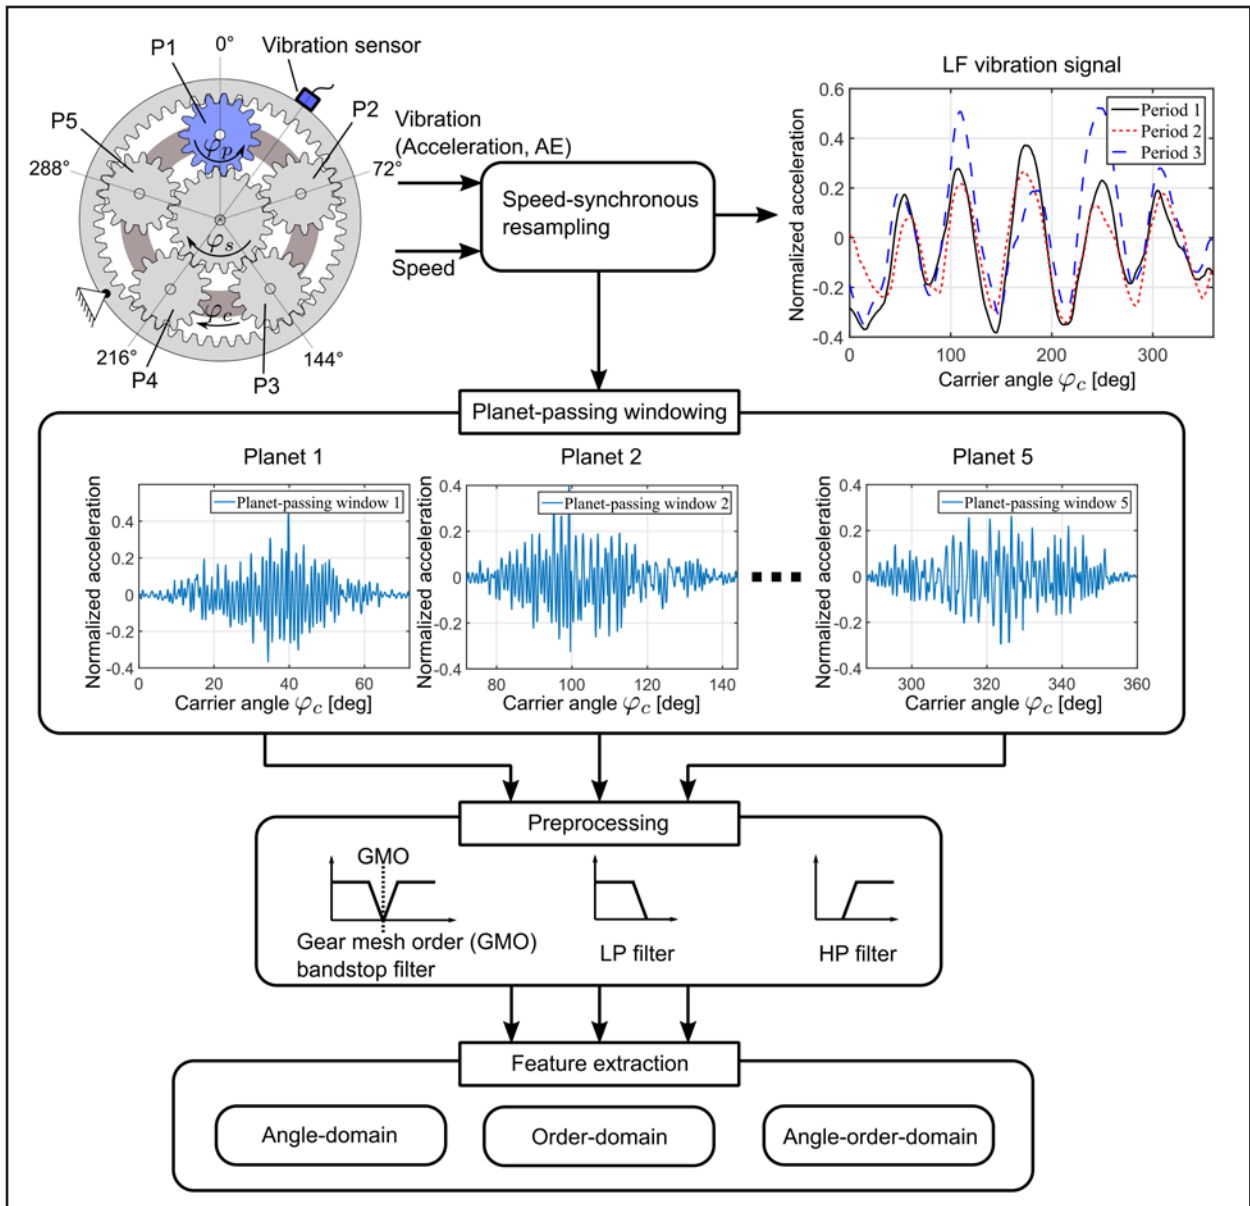

Figure 1 PGB monitoring method.
Since the vibration signals in the gear train have a vibration periodicity with respect to the gear meshing patterns, the following signal processing method for gear monitoring is shown in Figure 1 using acceleration signals. The acceleration signals were recorded on the planetary test bench of the FZG of the TU Munich (Ref. 8).
using speed-synchronous resampling. This signal processing step reduces the smearing effect in the spectral representation, which can be caused by speed fluctuations. The low-frequency (LF) vibration signal in the upper-right corner of Figure 1 shows the amplitude modulation effect that results in an increased vibration amplitude when a planet gear is directly below the vibration sensor mounted on the ring gear. After the resampling method, the vibration data are windowed with a window width of $360^\circ/N_p$, where N_p is the number of planet gears of the planetary gear. The center of the window is at the carrier angle point if a planet gear intermeshes right near to the vibration sensor. In the preprocessing step, various filters such as low-pass filters, gear mesh band-stop filters for revealing the vibration sidebands, and high-pass filters are applied to the window-shaped vibration signals to feed the feature extraction methods in the last step of Figure 1. Afterwards, features are extracted from the angle-domain vibration signal (e.g.: root mean square (RMS), kurtosis, crest factor) and from the order-domain of the vibration signal (e.g.: FM0, FM4, NB4, NA4, sideband level factor) (Ref. 24).